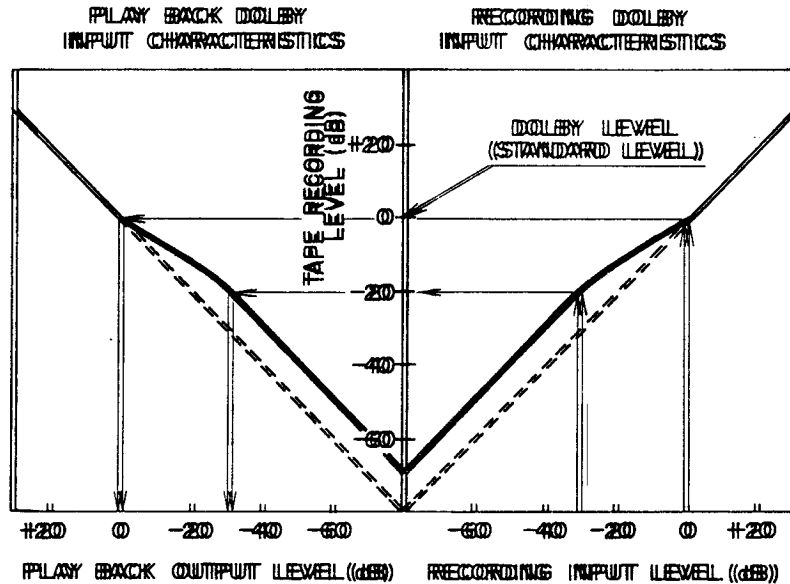

Fig. 31
- 6) At the Dolby recording circuit, output signal e_o is recorded at a 10 dB higher level in relation to a 30 dB lower input level than the Dolby level (See Fig. 31) (Output signal e_o , at over 400 Hz signal, becomes 10 dB higher than the input signal).
- 8) Because the output signal becomes $e_o = e_1$, the relative ratio of the input and output signals become 1:1 (Fig. 31).
- 5) As shown in Fig. 31, with the Playback Dolby NR Circuit signals recorded above the Dolby level are played back at a 1:1 ratio, and signals recorded at a level of under -20 dB on the tape (Dolbyized recorded signals) are reduced by 10 dB and played back.